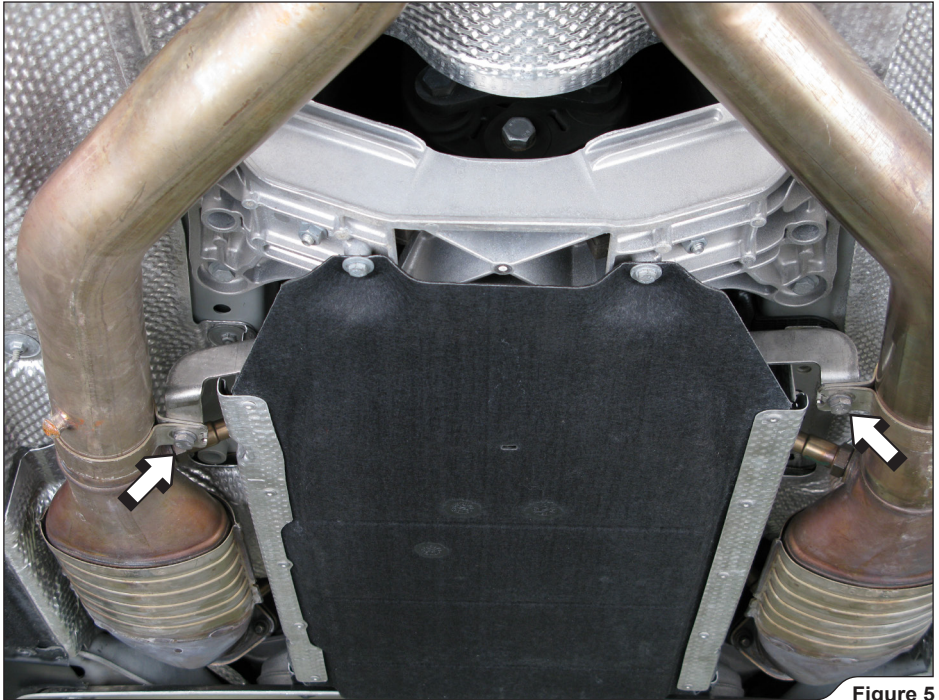

Figure 5
5. **For Evolution:** unscrew the marked middle pipes brackets (**Figure 5**).